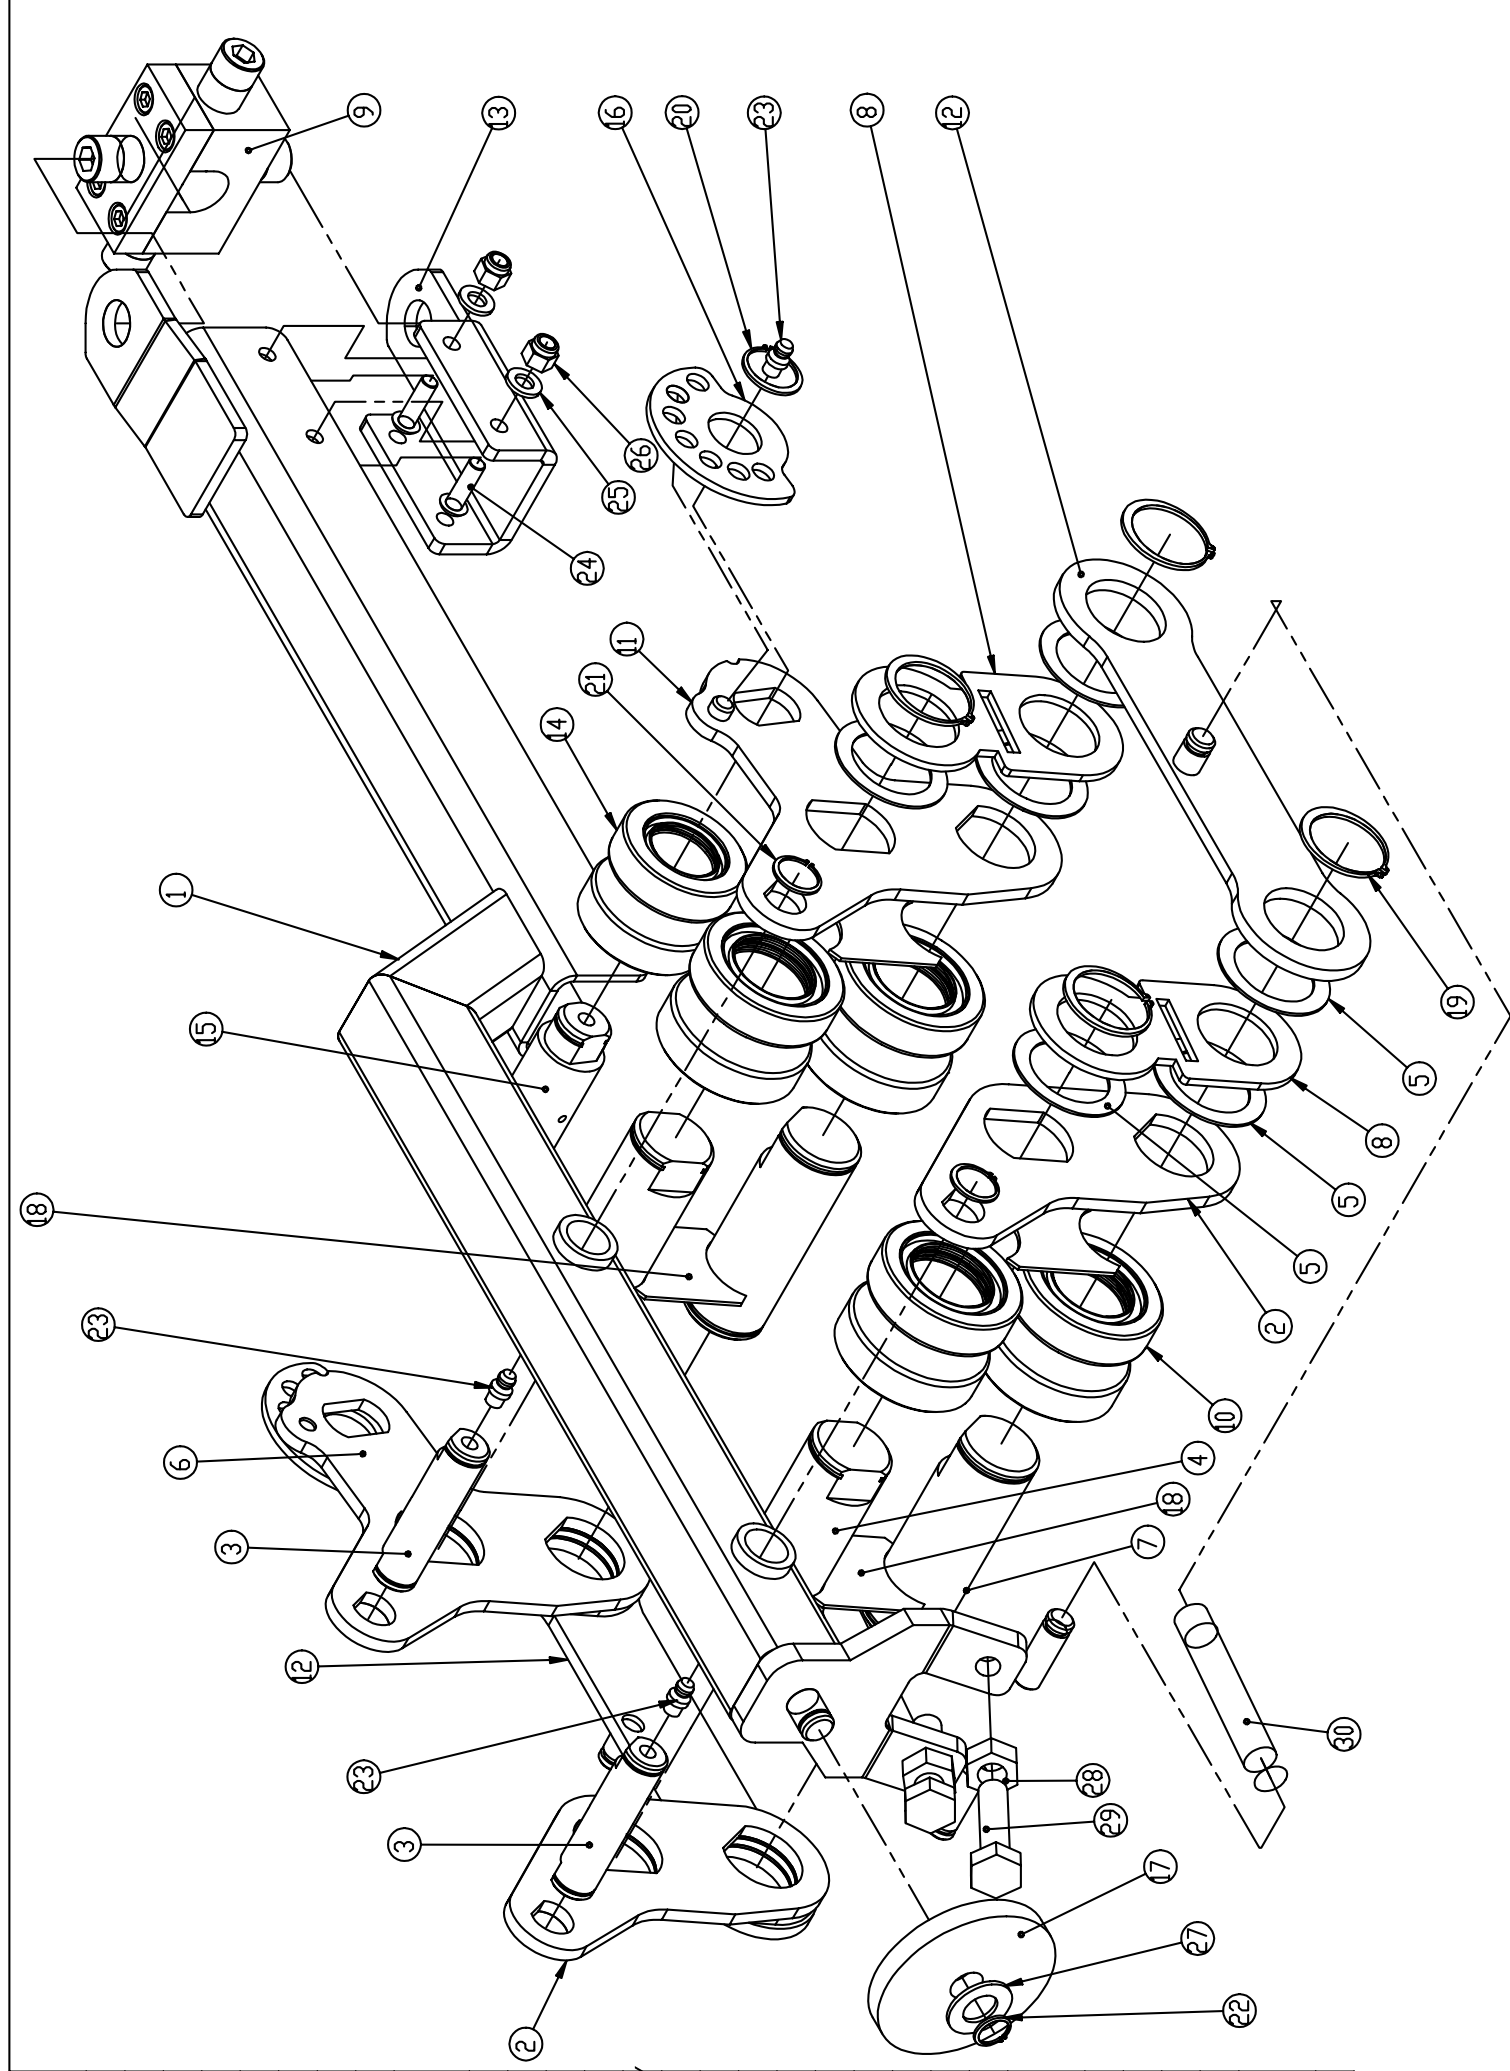
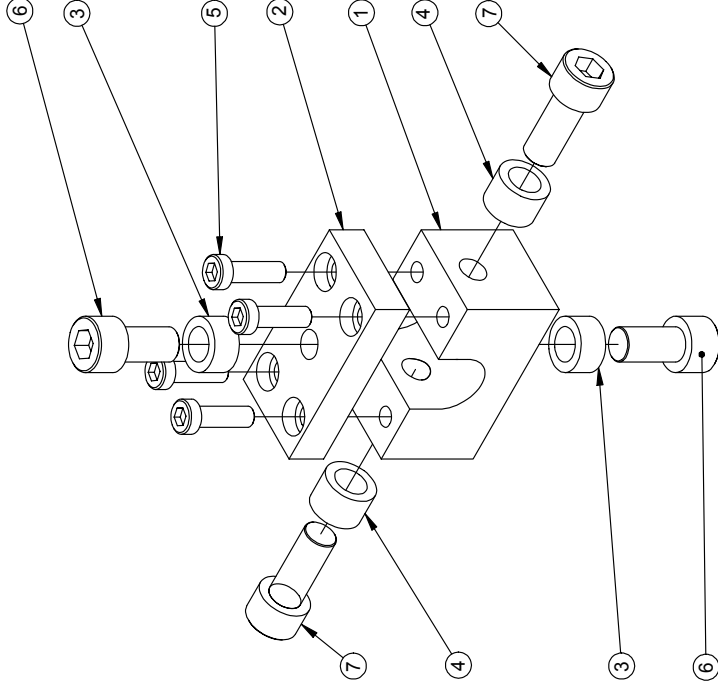
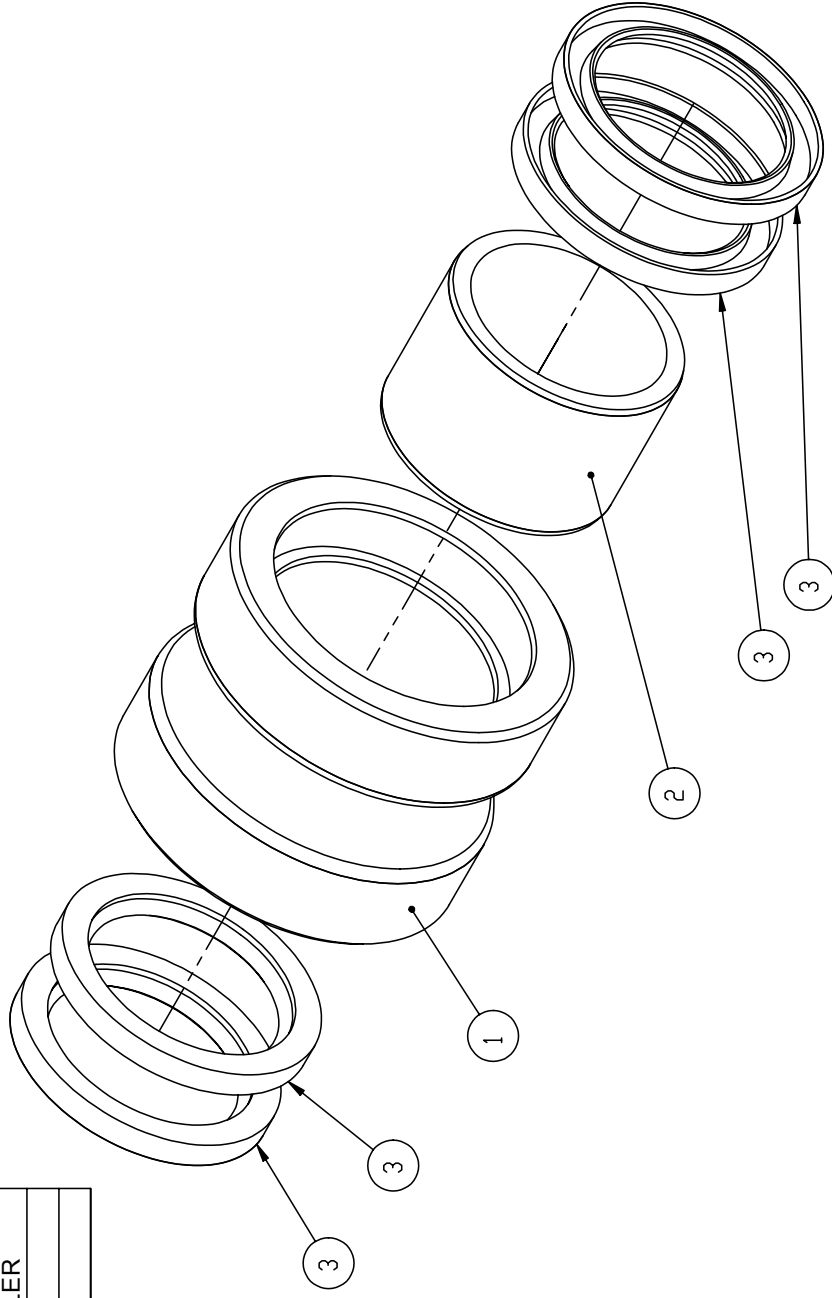
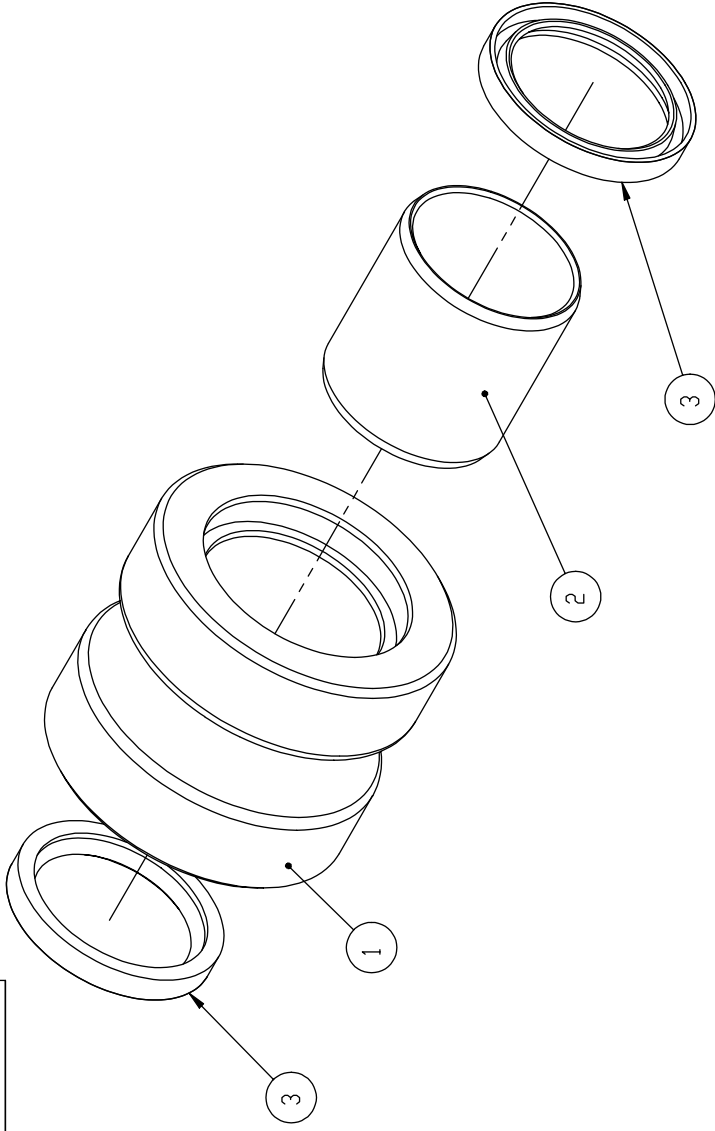

Figure 2. Rope Brake Assembly (Right Hand Rope Brake shown in inverted position).
Figure 3. Universal Joint [(assembly number 5003-500-005) shown in inverted position].
Figure 4. Drag Roller (assembly number 5003-500-008).
Figure 5. Release Roller (assembly number 5003-500-013).
The Rope Brake is assembled around the winch rope and is mounted inside the hollow barrel of the fairlead assembly. The universal joint (Figure 3 and Figure 2, item 9) is bolted to the recovery systems’ fairlead. The Rope Brake is self-aligning with the winch rope for all fairlead positions. The Rope Brake rotates around the winch rope as the fairlead rotates in the direction of the winching task.
The hanger (Figure 2, item 1) extends from the universal joint through the barrel of the fairlead towards the winch. Brake components that control the resistance on the rope are mounted from the hanger, clear of the fairlead and adjacent boom structure.
The front arms (Figure 2, item 2) and rear arms (Figure 2, item 6 and 11) pivot on grease lubricated pivot pins (Figure 2, item 3) that pass through bushes in the hanger. Grease nipples (Figure 2, item 23) are press fitted to the pivot pins.
The Rope Brake applies the resistance to the rope through four (4) drag rollers (Figure 2, item 10) mounted in pairs. Each roller rotates on an axle. A long axle (Figure 2, item 7) is fixed in the end of the arms and a short axle (Figure 2, item 4) is located in a slot at the mid-length of the arms. The drag roller assembly consists of a hardened roller (Figure 4, item 1), fitted with a special composite bearing (Figure 4, item 2). The bearing is self-lubricating and is protected from dirt, water and excess oil or grease ingress at each end by two nitrile rubber lip seals (Figure 4, item 3). Each seal is fitted so that the rubber lips face outwards. A minute quantity of grease applied between the two seals is sufficient to provide lubrication of the seal lips.
The front and rear arms are connected by a link, at the ends furthest from the hanger, (Figure 2, item 12) which forms a parallelogram mechanism. Each link pivots on the ends
The arrangement of the rollers and arms is such that when the rope is pulled towards the winch the mechanism engages the rope once an initial small force is induced between the rollers and the rope. This initial small force is provided by two tension springs (Figure 2, item 30) attached between the hanger and the link connecting the front and rear arms. The rotation of the arms in the direction of the winch, relative to the hanger, is limited by a screw (Figure 2, item 29) and locknut (Figure 2, item 28) on each side of the hanger end. The extent of the arm rotation controls the deflection of the rope around the rollers, and the maximum amount of resistance that can be generated by the Rope Brake
The long axle in each arm is fixed relative to the arm end. Short axles have parallel flats on the ends, which are fitted between the sides of the slotted hole in each arm. A shear link (Figure 2, item 8) fitted on the outside of each arm locates the short axle relative to the adjacent long axle and hence determines the spacing between the rollers attached to the arm. Each pair of shear links carries the force, which acts to separate a roller pair. Excessive force between a pair of rollers due to a damaged rope, debris or incorrect operation of the Rope Brake will break the shear link(s) allowing the short axle(s) to move away from the long axle(s). The shear links are not repairable.
A release roller assembly (Figure 2, item 14) that rotates on an axle (Figure 2, item 15) supported by the rear arms, deflects an unloaded rope away from the hanger as it enters the rear roller pair. The release roller assembly is grease lubricated and runs on a replaceable bearing (Figure 5, item 2) protected on both ends by a nitrile rubber lip seal (Figure 5, item 3). A grease nipple (Figure 2, item 23) is press fitted to the release roller axle. The force exerted between the release roller and the rope increases as the tension on the free end of the rope increases (for example, due to a recovery task) and acts to rotate the release roller away from the winches. Rotation of the release roller away from the winches decreases the deflection of the rope by the drag rollers and therefore the friction force on the rope.
Adjustment of the setting disks (Figure 2, item 16) varies the position of the release roller relative to the rear arms and hence the amount of resistance that the drag rollers exert on a completely taught rope as it moves towards the winch.
Contact between the drag rollers and the sides of the rear arms is prevented by scraper/wear plates (Figure 2, item 18) fitted between the arm side and the roller. The shape of the scraper/wear plates ejects dirt from between the rollers and side plates. Compaction of dirt between the roller and the arm side will result in seal wear and drag roller bearing damage.
The following descriptions for assembly and dis-assembly assume that the operator has familiarized themselves with the components of the Rope Brake and their relative positions, as illustrated in Figure 1, Figure 2, Figure 3, Figure 4 and Figure 5. Servicing of roller and release roller sub-assemblies are described separately, in Section 4.3.1.2 and Section 4.3.2.2.
- a. Using an 8mm Allen key, remove the four (4) M10 socket head cap screws (Figure 3, item 6, 7) from the universal joint assembly.
- b. Using a 5mm Allen key, remove the four (4) M6 socket low head cap screws (Figure 3, item 5) from the universal joint block and free the cap from the block.
- d. Fasten the cap to the block using the four (4) M6 socket low head cap screws. Apply Loctite 242 to the screw threads.
- d. Apply Loctite 242 sparingly to the threads of the two (2) M10x20mm socket head cap screws (Figure 3, item 6). Fit each with a short bolt sleeve (Figure 3, item 3). Fasten the universal joint to the hanger. Loctite must not be allowed to bond the bolt sleeve to the bolt.